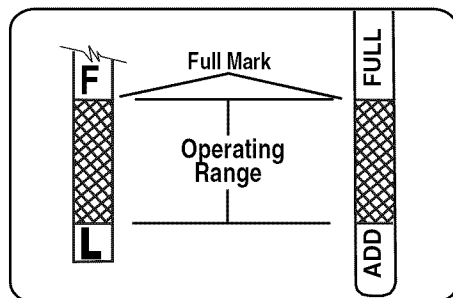

Figure 16
- Pull the dipstick out and check the oil level. The oil level should be up to, but not over, the "FULL" or "F" mark on the dipstick. See Figure 16.